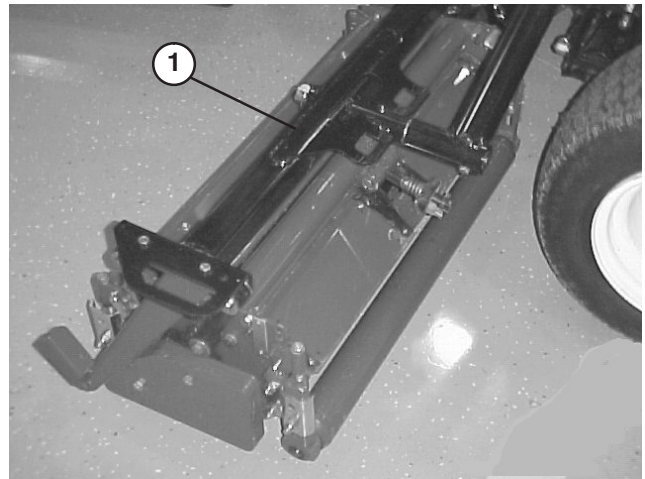
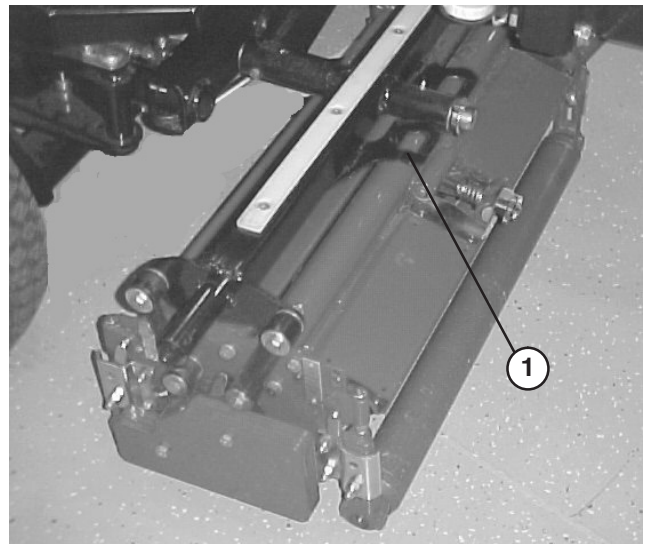
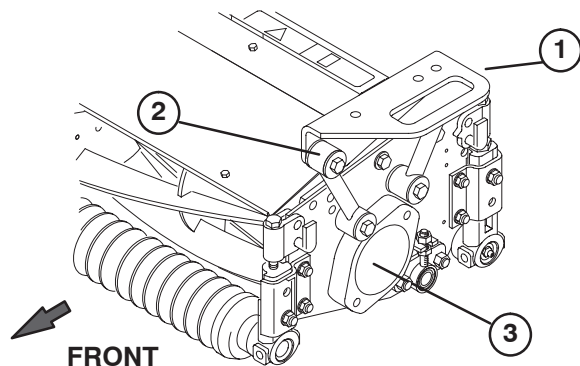

Figure 12
Figure 13
Figure 14
Note: With lift arms fully raised, hoses should be routed as shown in figure 14 and clear lift arm by .04-.12".
2. Position a front carrier frame (Fig. 12) onto each front cutting unit. Align mounting holes with mounting links as shown in figure 14.
3. Position rear carrier frame (Fig. 13) onto rear cutting unit, aligning mounting holes with mounting links as shown in figure 14.
- Secure each mounting link to carrier frame with a 3/8-16 x 2-1/4" lg capscrew, (2) flatwashers and a locknut, as shown in figure 14. Position a washer on each side of link when mounting. Torque to 31 ft-lb.
3. Remove shipping plug from bearing housings on remaining cutting units (Fig. 14).